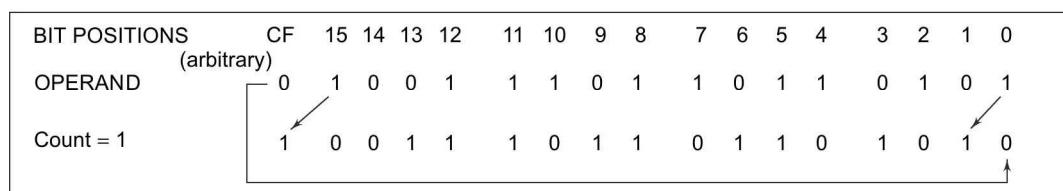

Fig. 2.13 Execution of RCL Instruction
RCL: Rotate Left through Carry This instruction rotates (bit-wise) the contents of the destination operand left by the specified count through the carry flag (CF). For each operation, the carry flag is pushed into LSB and the MSB of the operand is pushed into carry flag. The remaining bits are shifted left by the specified positions. The SF, PF, ZF are left unchanged. The operand may be a register or a memory location. Figure 2.13 explains the operation.